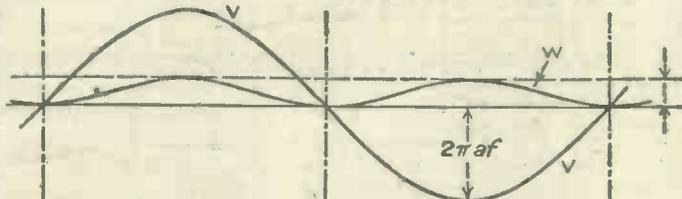

Fig. 1.—Graph showing relation between pressure energy and pressure distribution.
Now throughout the system at the instant when the whole energy is kinetic, the velocity is distributed harmonically; let this be represented as in Fig. 1, as a sine curve  $V$ , the loops being alternately positive and negative. Then velocity2 is represented by another sine curve of twice the frequency  $W$ , which is wholly positive, clearly the mean height of this is half the maximum, so that the actual energy (per cu. ft.) will be half that given by expression (1):—
The pressure distribution is harmonic, and the pressure energy is proportional to the square of the pressure. Thus we may read the graph  $V$ , Fig. 1, as showing pressure, of which the loops are alternately positive and negative according as the pressure is above or below atmosphere. The energy is proportional to the graph  $W$ , the mean ordinate of which is half the maximum. As representing pressure the maximum (of the superposed system) is